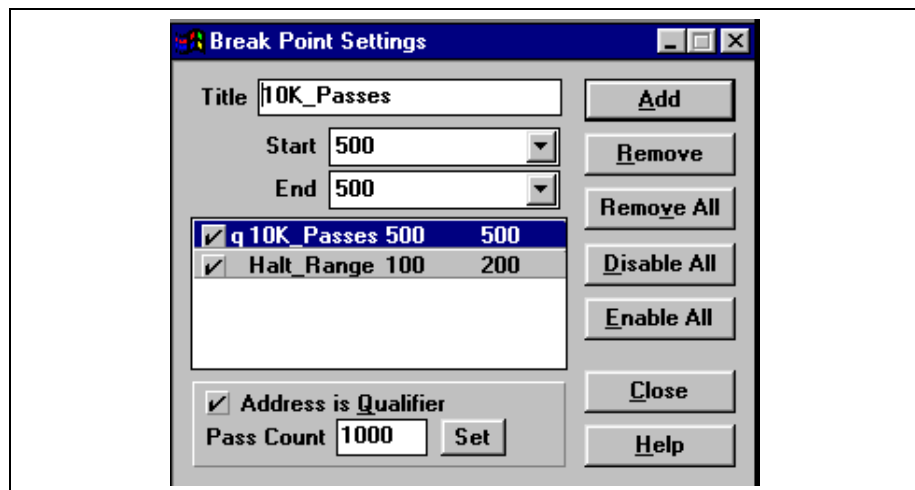

Figure 6.5: Break Point Settings Dialog – Pass Counter
**Example 6.1:** This example shows break points and pass counter addresses used in the same code (Figure 6.5). Keep in mind that break points and pass counter addresses are independent of each other.